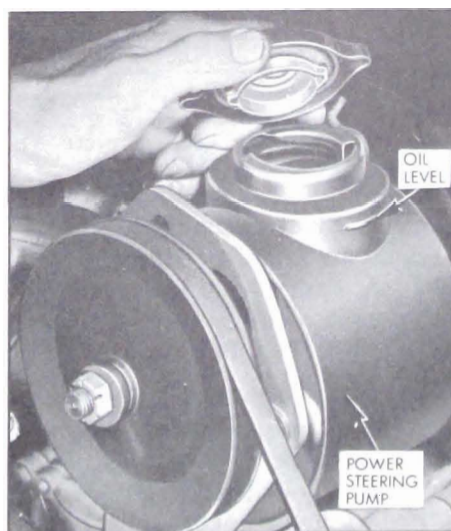

Figure 1-8—Power Steering Pump Reservoir
5. Power Steering Gear. Thoroughly clean dirt from reservoir cap on top of oil pump, then remove cap. With system warmed up, maintain level with oil specified for automatic transmission. See Figure 1-8.